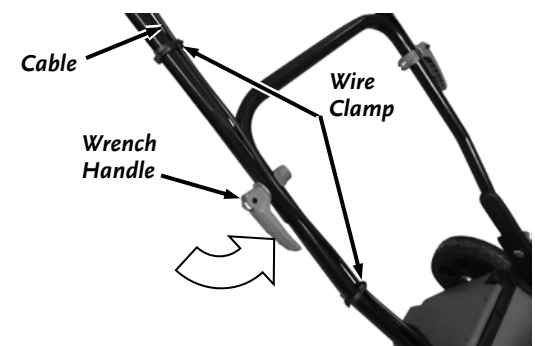

Figure 7
7. Fold the Wrench handle down against the Handlebar (**Figure 7**). If the Wrench Handle is loose, open it again and rotate clockwise until it is snug when folded down.